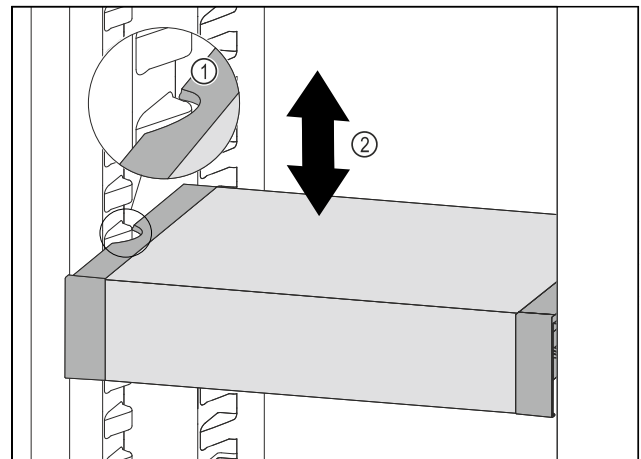

Fig. 139
- Pull VarioSafe forwards until the recesses in the side of the VarioSafe are at the level of the support rib in the refrigerator compartment. Fig. 139 (1)
- Move VarioSafe up or down in the refrigerator compartment until the desired height is reached. Fig. 139 (2)